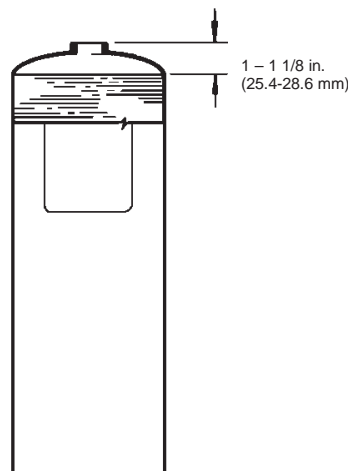

FIGURE 15
13. Refill each tank with 1.5 gallons (5.8 L), 2.25 gallons (8.5 L), or 3.0 gallons (11.6 L) of new PRX Liquid Fire Suppressant. When filled, level of liquid should be 1 – 1 1/8 in. (25.4-28.6 mm) from bottom of fill opening. See Figure 15.